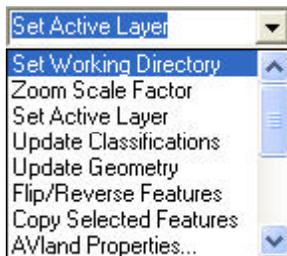

Figure 3
Use the [Set Working Directory] command within the {CEDRA Commands} combo-box (see Figure 3) to verify that the current working directory is set appropriately.
Activate the [Set Active Layer] command within the {CEDRA Commands} combo-box (see Figure 3).
- Scroll down in the {CEDRA Commands} combo-box (see Figure 3) and select the [Import Points] command. Upon activation of the command the Browse button will appear as shown below in Figure 11. The user should select this button.